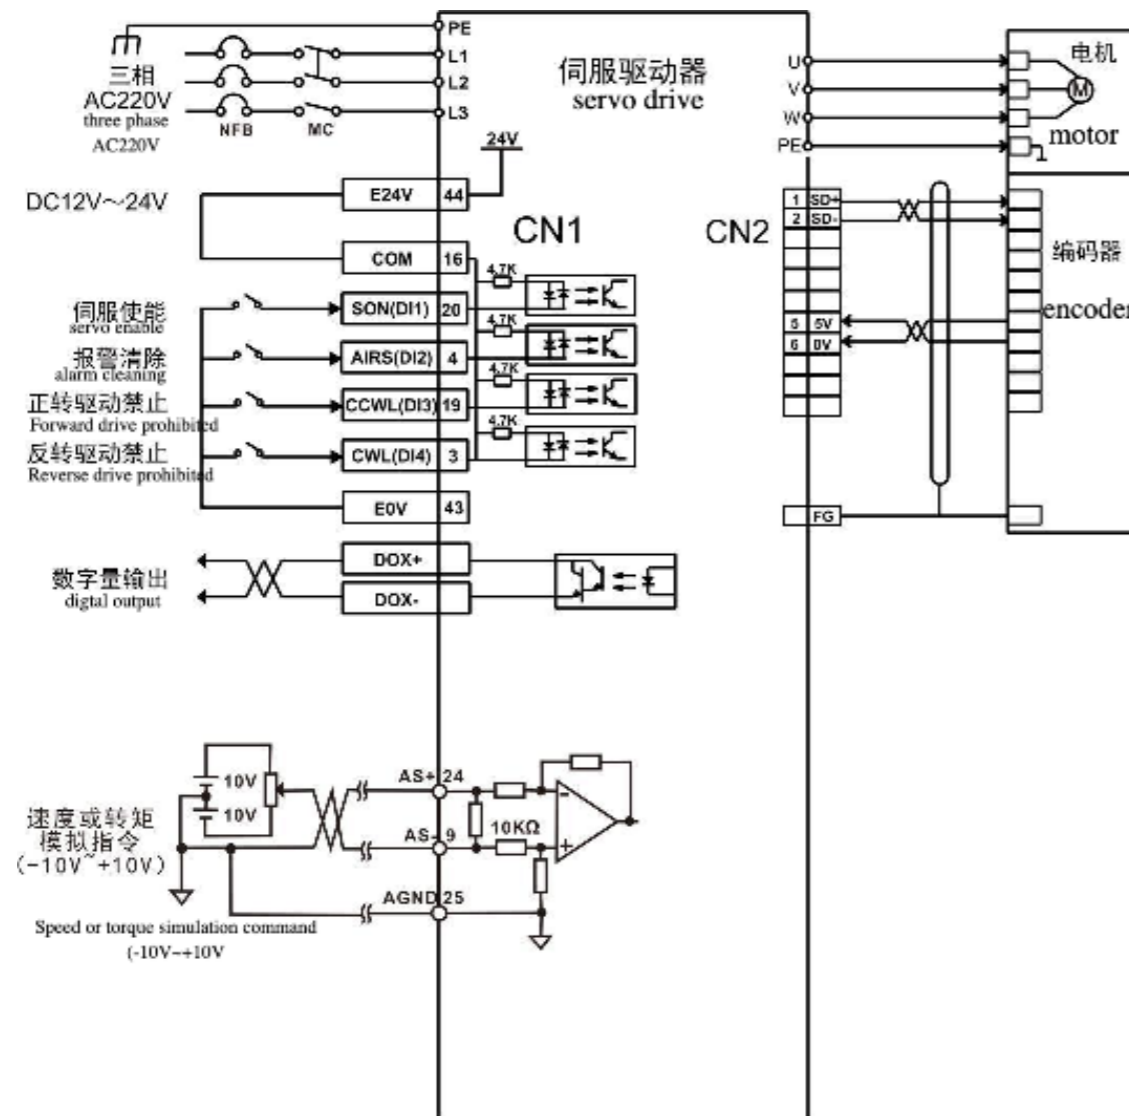

Figure 5.6 Torque mode wiring diagram
- 3) Refer to Figure 5.6 for wiring instructions to connect the required DI/DO signals in the CN1 terminal, such as servo enable, alarm clear, positioning completion signal, etc.